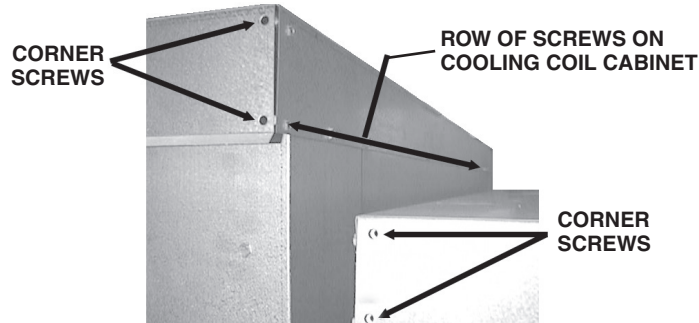

**Figure 11. Discharge Damper Wiring Connections**
- (1) Out through hole in discharge plenum leg into cooling coil cabinet.
- (2) Through blockoff plate across coil cabinet.
- (3) Out through hole in cooling coil cabinet leg.
- (4) Into furnace section.
- e. Connect wires in accordance with **Figure 11**.